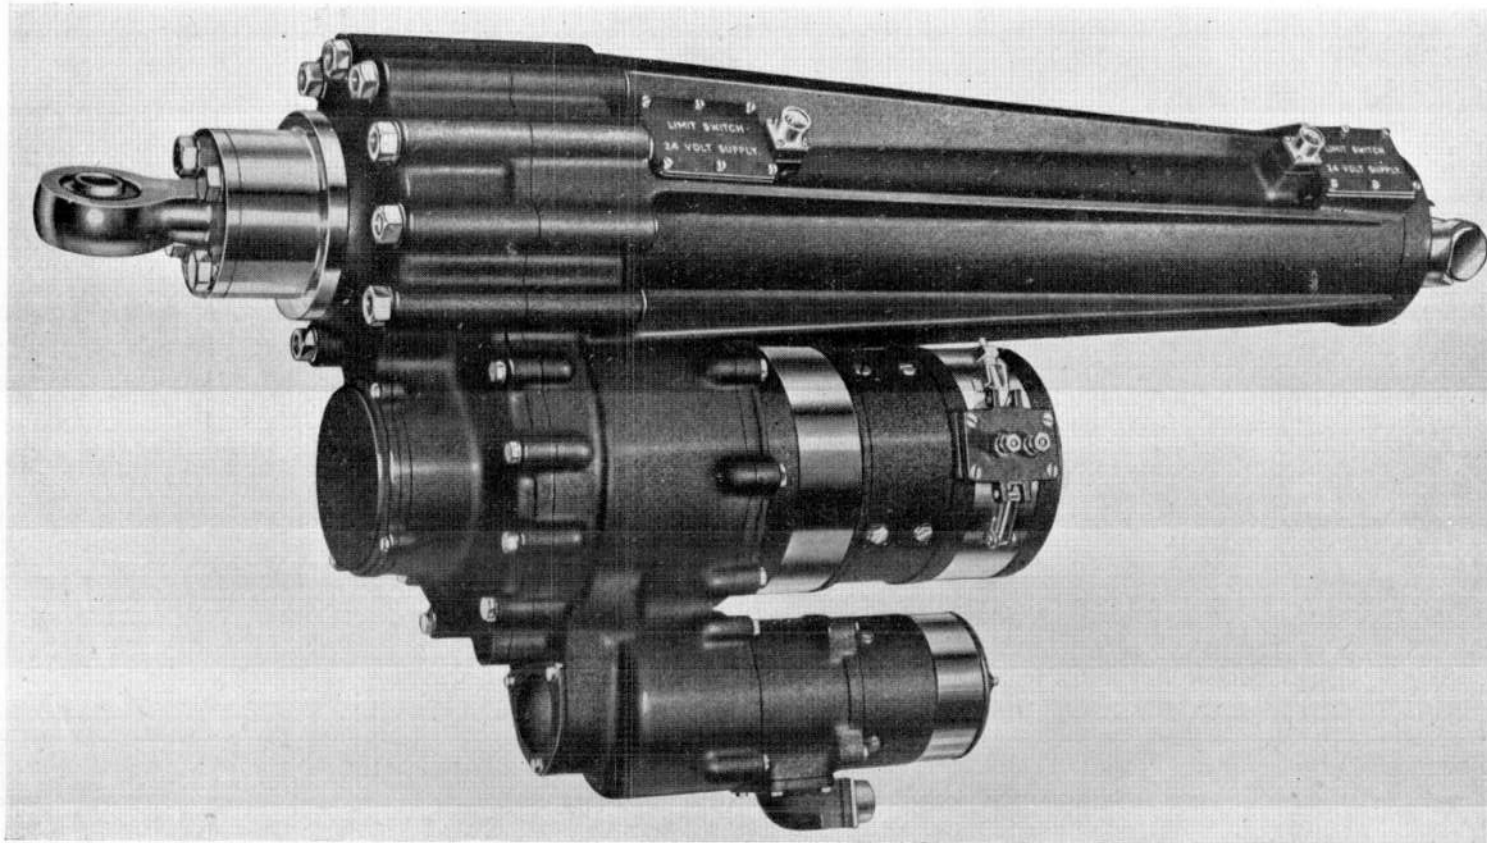
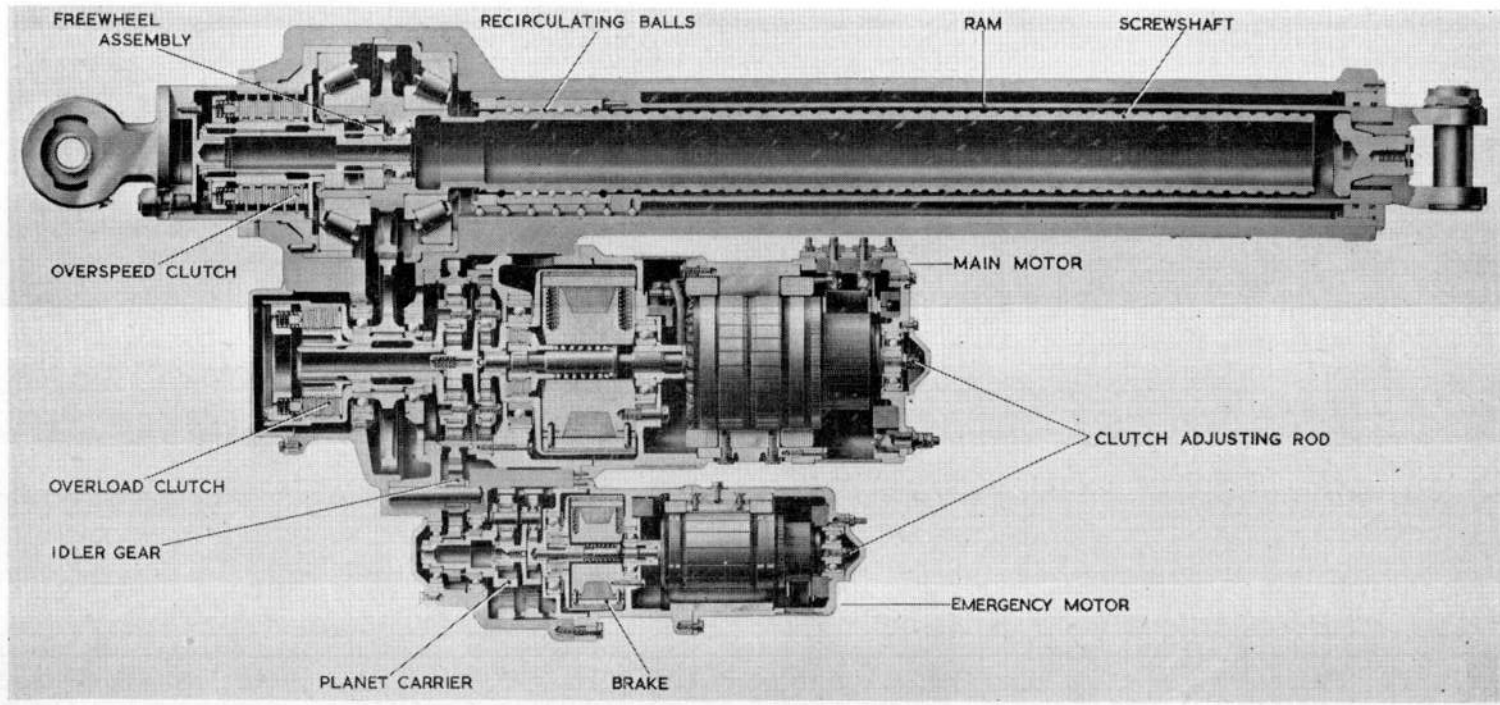

Fig. 1. Typical linear actuator
Fig. 2. Type A1100 actuator
1. Linear actuators in the A1100, A1200 and A1400 series follow the general design described in this appendix. A typical machine is illustrated in fig. 1, whilst fig. 2 and 3 show the main details of three types. In addition, a typical installation circuit diagram is given in fig. 4. This circuit does not necessarily represent any particular installation, but serves to assist in describing the operation. Details of individual actuators will be found in A.P.4343D, Vol. 1, Sect. 15.
11. A high efficiency thread of the recirculating ball type is employed (fig. 2), torque reaction between the ram and the screwshaft being absorbed by three sets of steel balls located in the ram and running in steel guides in the ram housing. The screwshaft is supported at its root by taper roller bearings. An eye-bolt is splined to the ram and is secured by a tension pin.